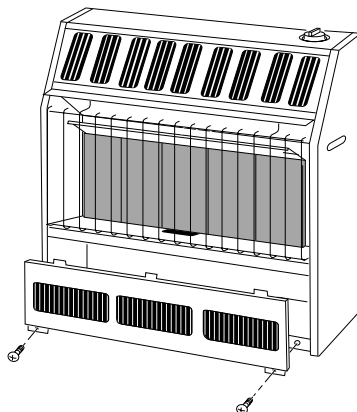

Figure 7 - Removing Front Panel of Heater (Model FB-5B Shown)
2. Pull bottom of lower front panel forward, then down (see Figure 7).